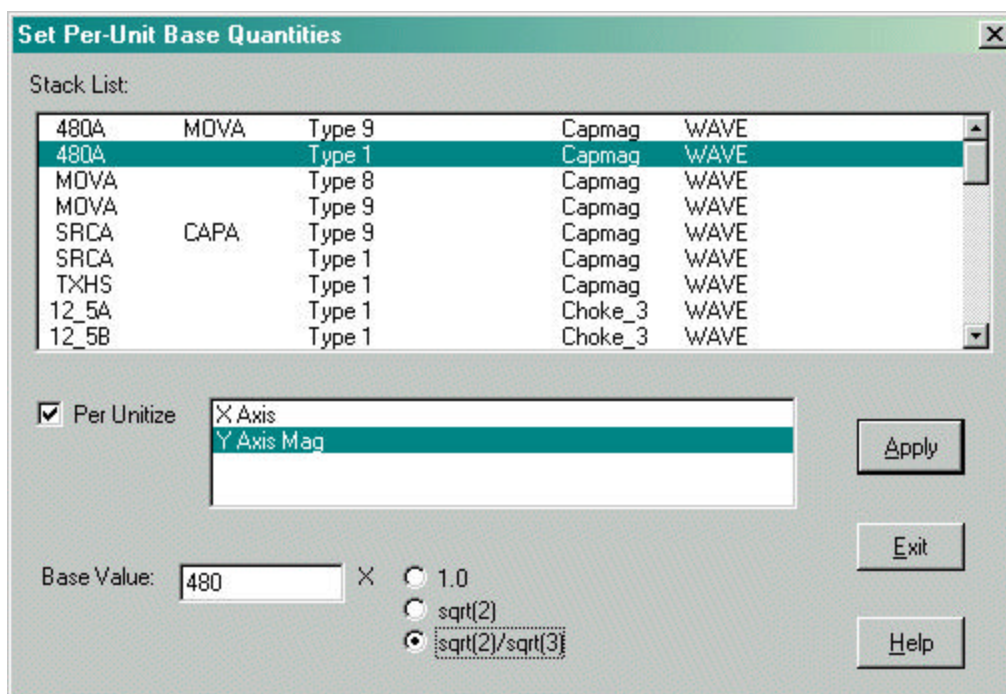

Figure 2-2: TOP's Set Per-Unit Base Quantities Dialog
To set base quantities, select the **Stack, Base Quantities...** menu option. The **Set Per-Unit Base Quantities** (shown in Figure 2-2) dialog is displayed.
- Enter a **Base Value**. If desired, you can adjust this value by selecting the **sqrt(2)** or **sqrt(2)/sqrt(3)** radio buttons. For example, the objects selected in Figure 2-2 are line-to-neutral voltages on a 480 V rms system. To per unitize these voltages on peak line-to-neutral voltage, the base value should be